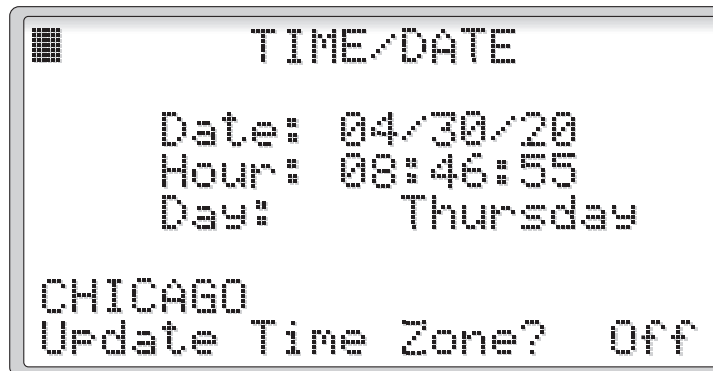

Figure 14
2.3.3.1 Time Settings (Figure 14)